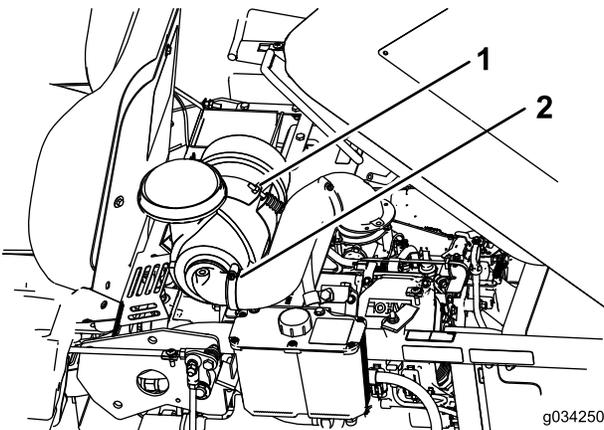

Figure 31
3. Loosen the clamp holding the hose and remove the air-cleaner (Figure 31).